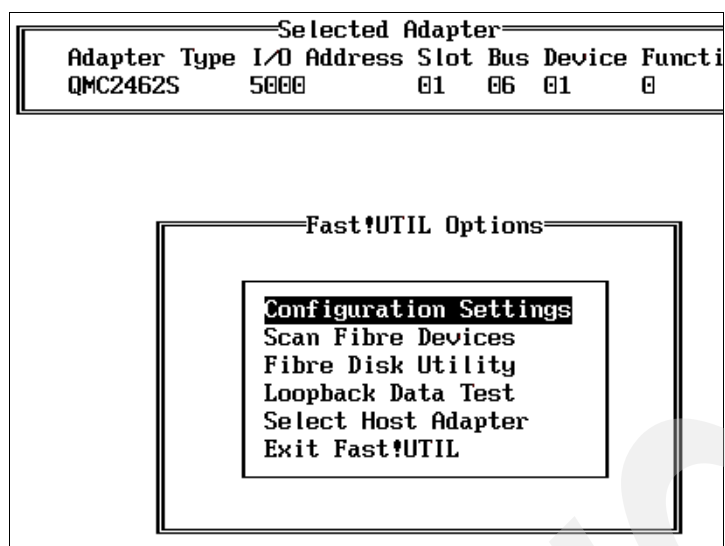

Figure 9-3 QLogic - Adapter menu
3. Figure 9-3 shows the ports menu that is displayed when you select an adapter.
6. If your server has more than one port (more than one HBA or a dual port HBA), press ESC until you return to the QLogic Adapter menu (shown in Figure 9-3 on page 134). Highlight the Select Host Adapter line and press Enter to return to the Select Host Adapter screen (shown in Figure 9-2 on page 133). Select the other port and repeat these steps to discover the WWN of the second port.